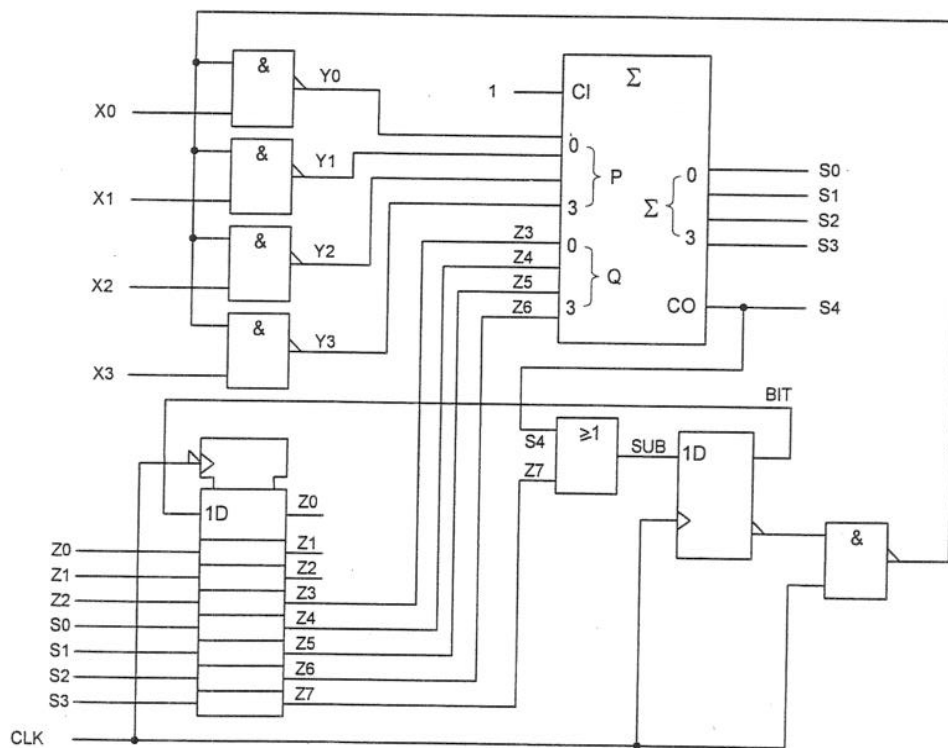

Figure 5.1
5. Figure 5.1 shows part of the circuitry needed to divide an 8 bit unsigned number by a 4 bit unsigned number  $X[3:0]$ . The 8 bit number is initially loaded into the register  $Z[7:0]$  with CLK held low. The division is then accomplished by applying four pulses to CLK.